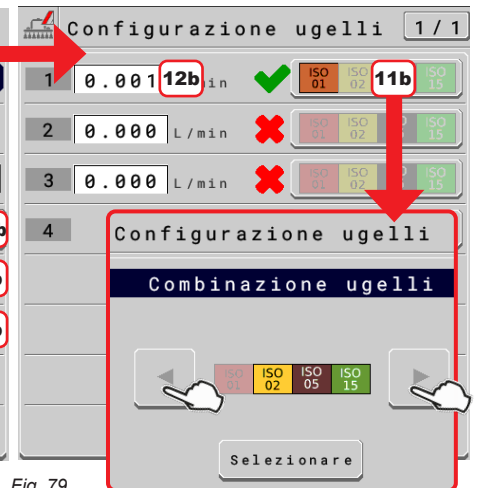

Fig. 79
You must enter the sum of the minimum flowrate (par. 11.5 Home > data and settings > implement settings > Nozzle data) and the flowrate of the selected nozzles (Fig. 79) (ref. 3 Fig. 46 on page 24).